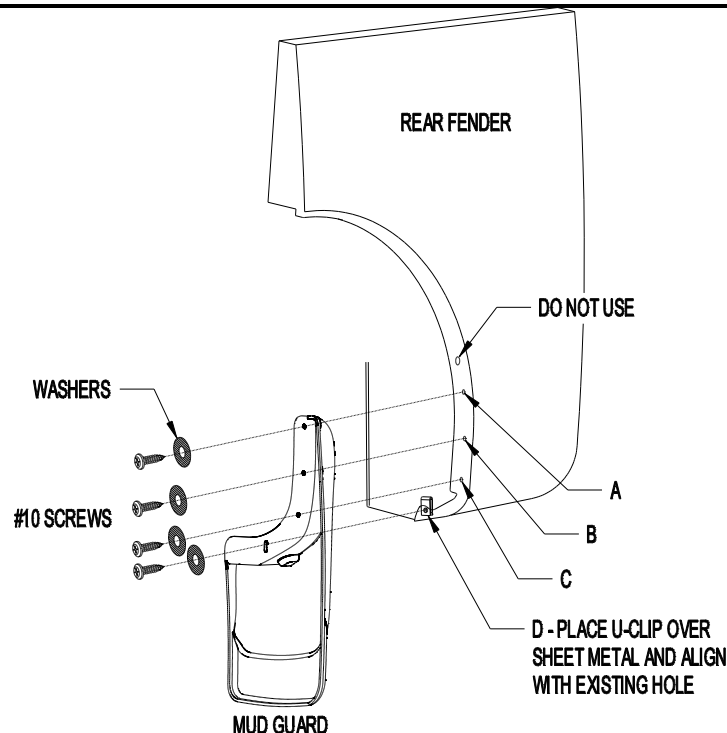

Figure 1
2. Install u-clip over sheet metal at location D and align with existing hole (Figure 1).
4. Using the mud guard as a template, center punch and drill 1/8" holes at locations A, B, and C (Figure 1).